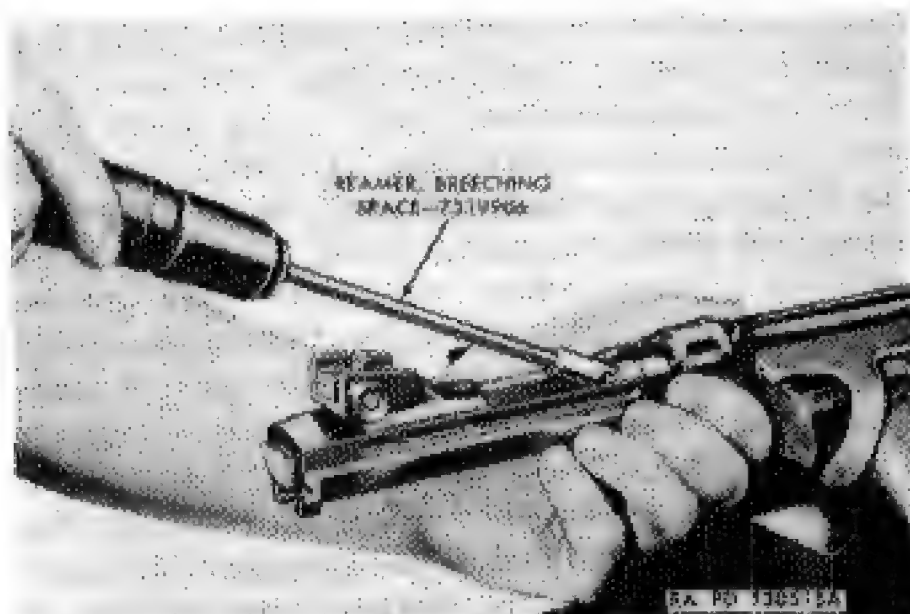

Figure 84. Reaming chamber for head space.
- (1) Dip breeching space reamer 7319906 in lard oil and place in chamber through top opening of receiver (Fig. 84). Turn-